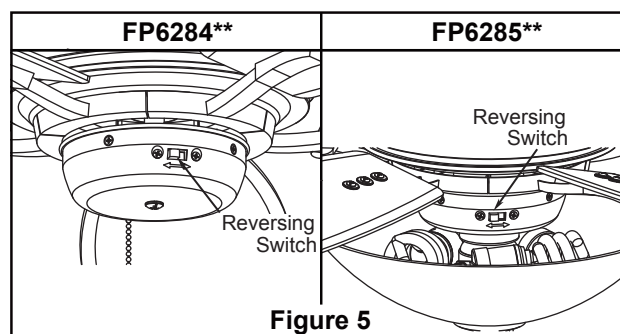

Figure 5
- ☐ **5.** Insert light bulbs into sockets. (Figure 5)
- ☐ **5.** If airflow is desired in the opposite direction, turn the fan off and wait for the blades to stop turning. Then slide the reverse switch to the opposite position and turn fan on again. (Figure 5)